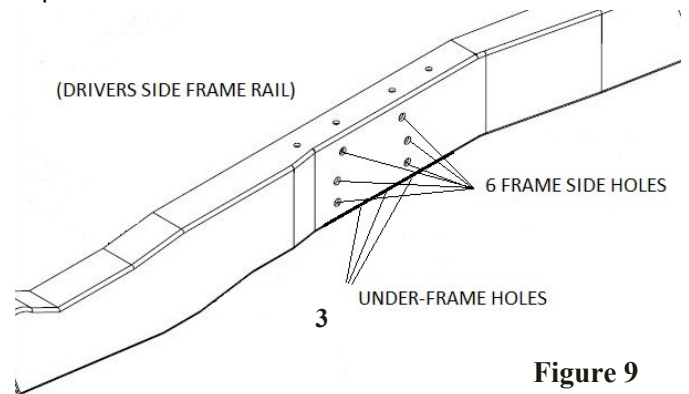

Figure 9
1. Pre-drill the existing eight holes in the frame where the engine cross-member was removed with a 1/2" drill bit. Six holes will be on the side of the frame and three on the underside of the frame. **(Figure 9)**